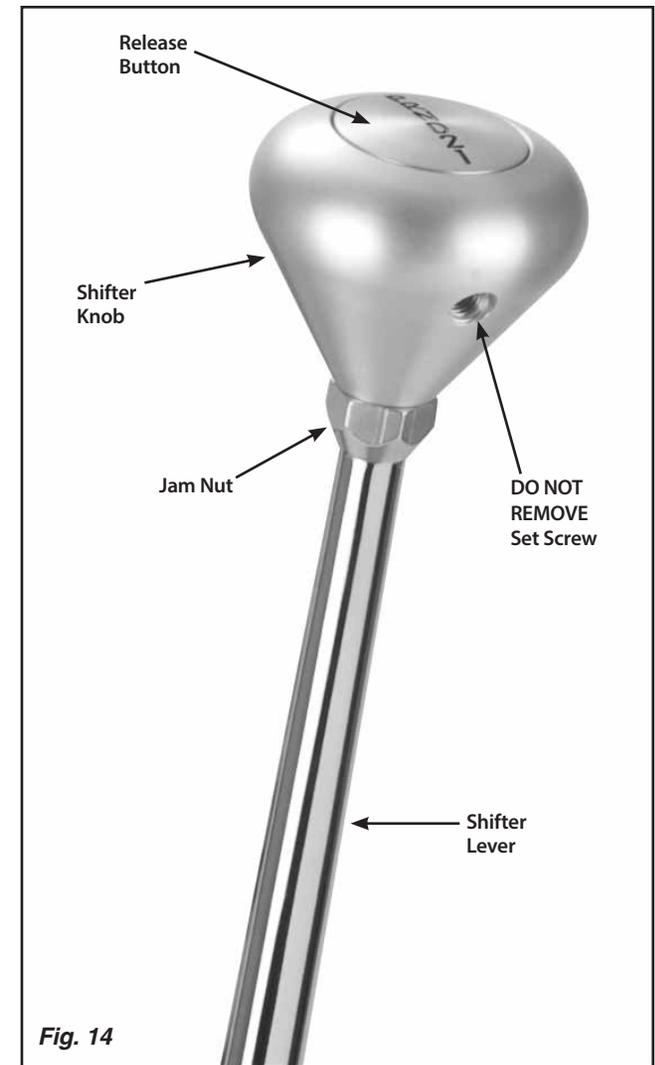

Fig. 14
**Step 2:** Loosen the jam nut below the shifter knob. **DO NOT** loosen or remove the set screw that is in the knob. **Fig. 14**